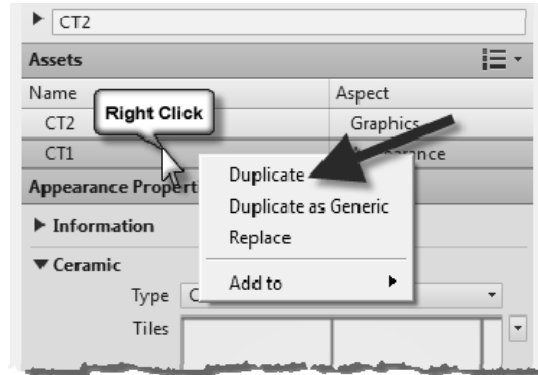

FIGURE 4-4.12 Material Editor – duplicate asset
46. In the *Material Editor*, right-click on CT1 (Figure 4-4.12).
48. Now switch to the *Asset Browser* and rename the CT1(1) copy to **CT2**.